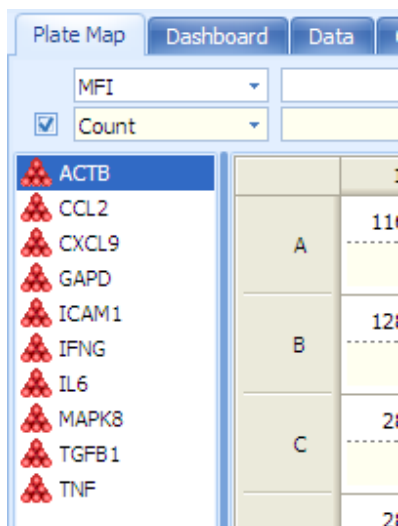

Figure 4.44 Analyte pane
1. In the virtual analyte filter (Figure 4.44), place a check mark next to each analyte that you want to add to the virtual plate. To select all analytes for the virtual plate, click **Check All**.
You can change the analyte names on plate map tab's analyte pane (Figure 4.44).